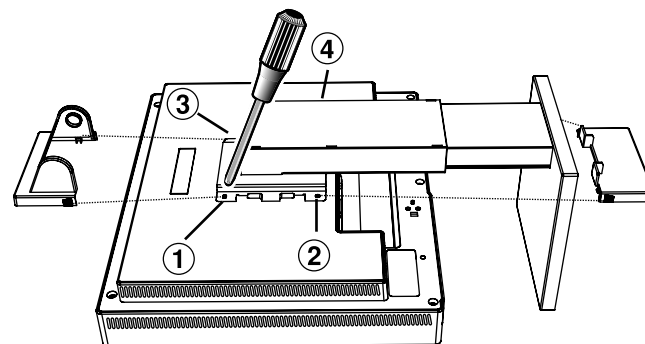

Figure S.2
4. Remove the 4 screws connecting the monitor to the stand and lift off the stand assembly (**Figure S.2**). The monitor is now ready for mounting in an alternate manner.